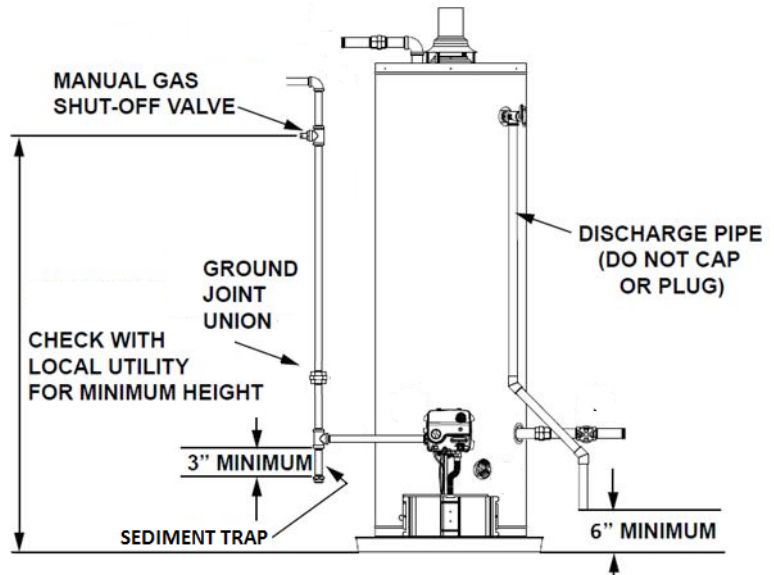

FIGURE 28. PIPING CONFIGURATION
5. Referring to **Figure 28** (page 34), disconnect the ground joint union in the gas piping.